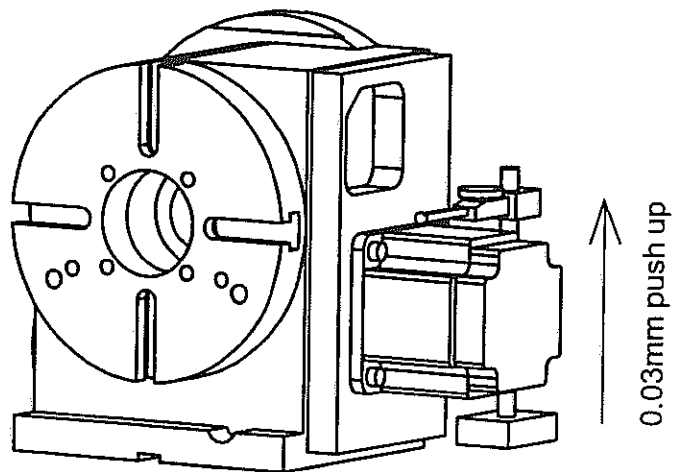

FIG.12
- [1] Slightly loosen four (4) motor fixing bolts.
- [4] Set the dial gauge at the motor flange as fig. 12.